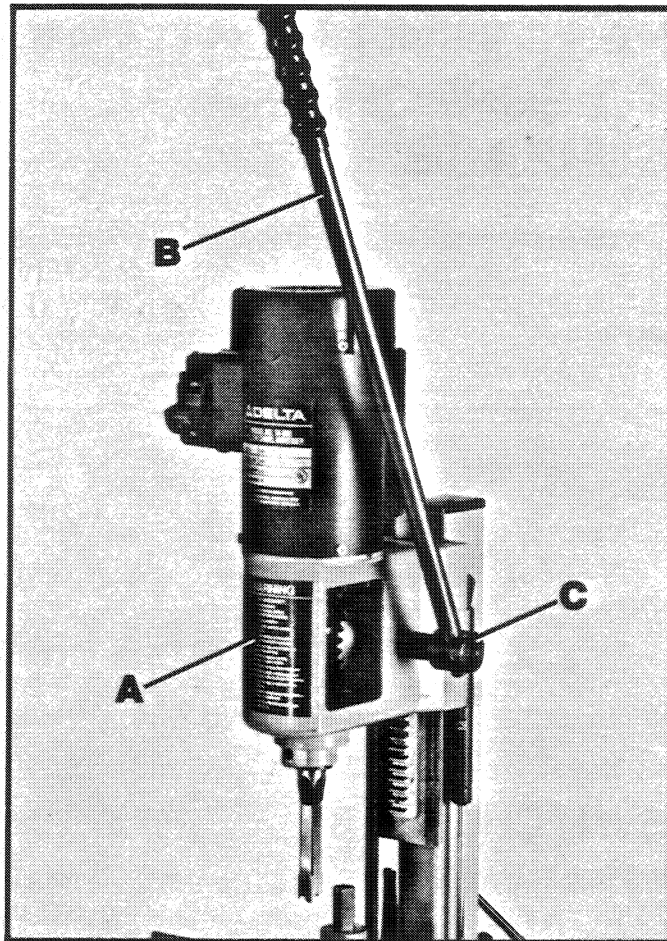

Fig. 21
The head (A) Fig. 21, is raised and lowered by means of the lever (B). Two sets of through holes are provided in the pinion shaft (C) enabling you to position lever (B) for maximum leverage during operation.